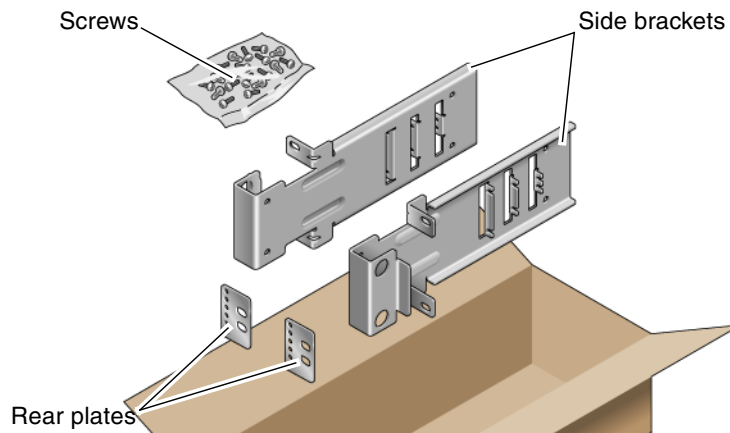

FIGURE 3-8 Contents of the Hardmount 19-Inch 2-Post Kit
1. Get the side brackets from the rack kit (FIGURE 3-8).
5. **(Optional)** If your environment is exposed to especially high vibrations, use the rear plates to further secure the server to the rack (FIGURE 3-8).